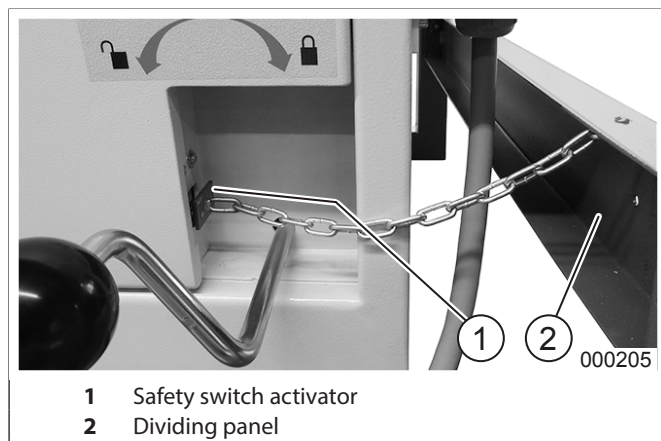

fig. 4 Safety switch activator
2. Secure the end of the chain of the baler safety switch activator (fig. 4/1) to the cross beam (fig. 4/2) of the shredder base, using the appropriate bores.
3. Insert the actuator (special key) of the safety switch activator (fig. 4/1) in the limit switch at the baler.